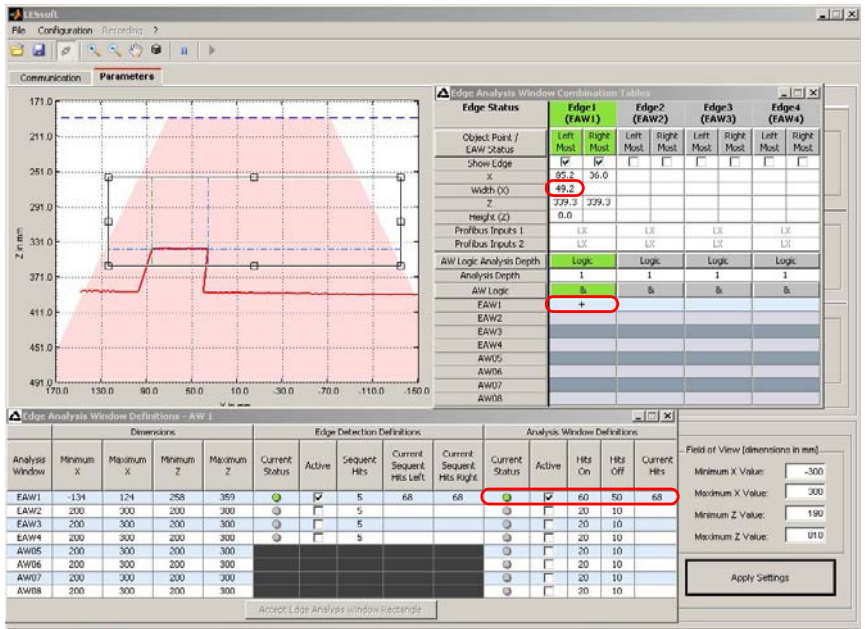

Figure 9.9: Application example 3.1: width monitoring of cubic objects with object detection
The threshold for object detection in EAW1 is 60 hits. In Figure 9.9 there is a wide object with Current Hits = 68 in the measurement range of the LES. The object is detected, the state of object detection is green (ok). In the Edge Analysis Window Combination Tables window, the additional object detection is activated by selecting + under EAW1. All results are green (ok). The ascertained width of the carton is 49.2mm (column Edge1 - > line width (X)).